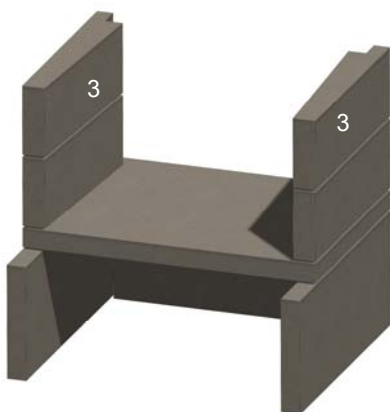

Figure 12. Middle Sidewalls
F. Install the middle sidewalls (3), ensuring they are level and square. See Figure 12.